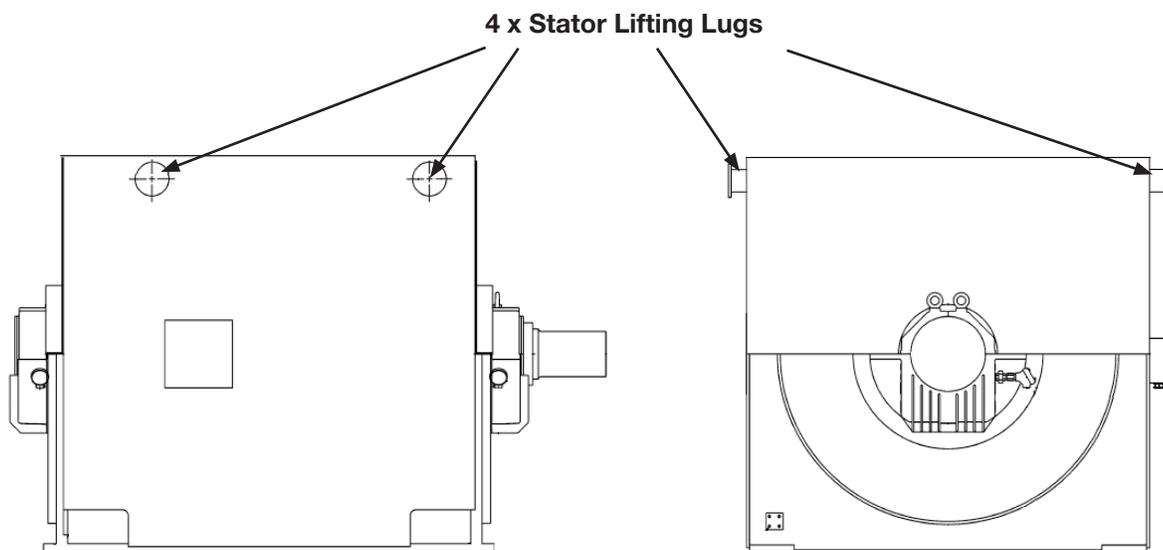

Figure 6-1: Handling of the Motor
- Lift the stator using all four lifting holes provided and shown in Figure 6-1.